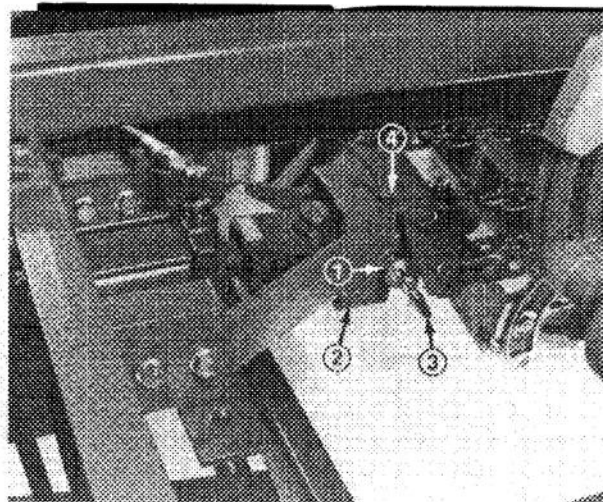

Figure 23
5. Slide lockup pin through holes in lockup bracket and secure with hairpin cotter (Fig. 23).